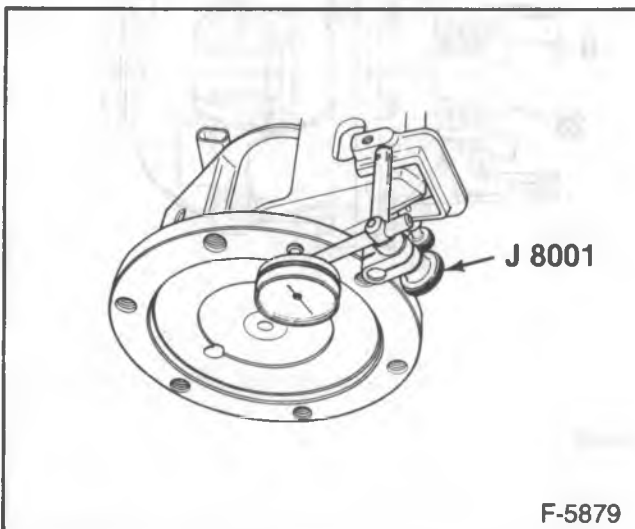

Figure 39—Measuring Axle Shaft End Play
📏 Measure (Figure 39)
- Shaft (1) end play.
1. Install a dial indicator (J 8001 or equivalent) on the axle tube end. The plunger of the indicator must be at a right angle to the axle flange (figure 39).
2. Move the shaft (1) back and forth and read the end play. Correct end play is 0.03-0.51 mm (0.001-0.020-inch).